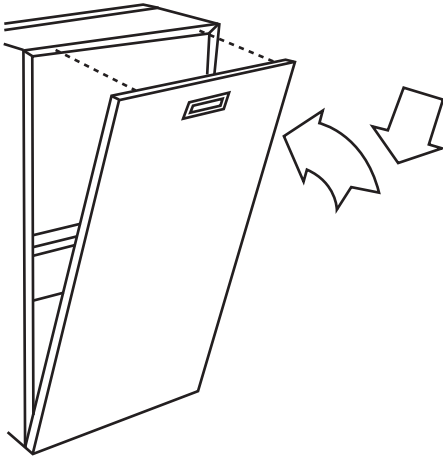

Fig. 12 - Furnace Door Replaced
7. Replace main furnace door. (See Fig. 12.)